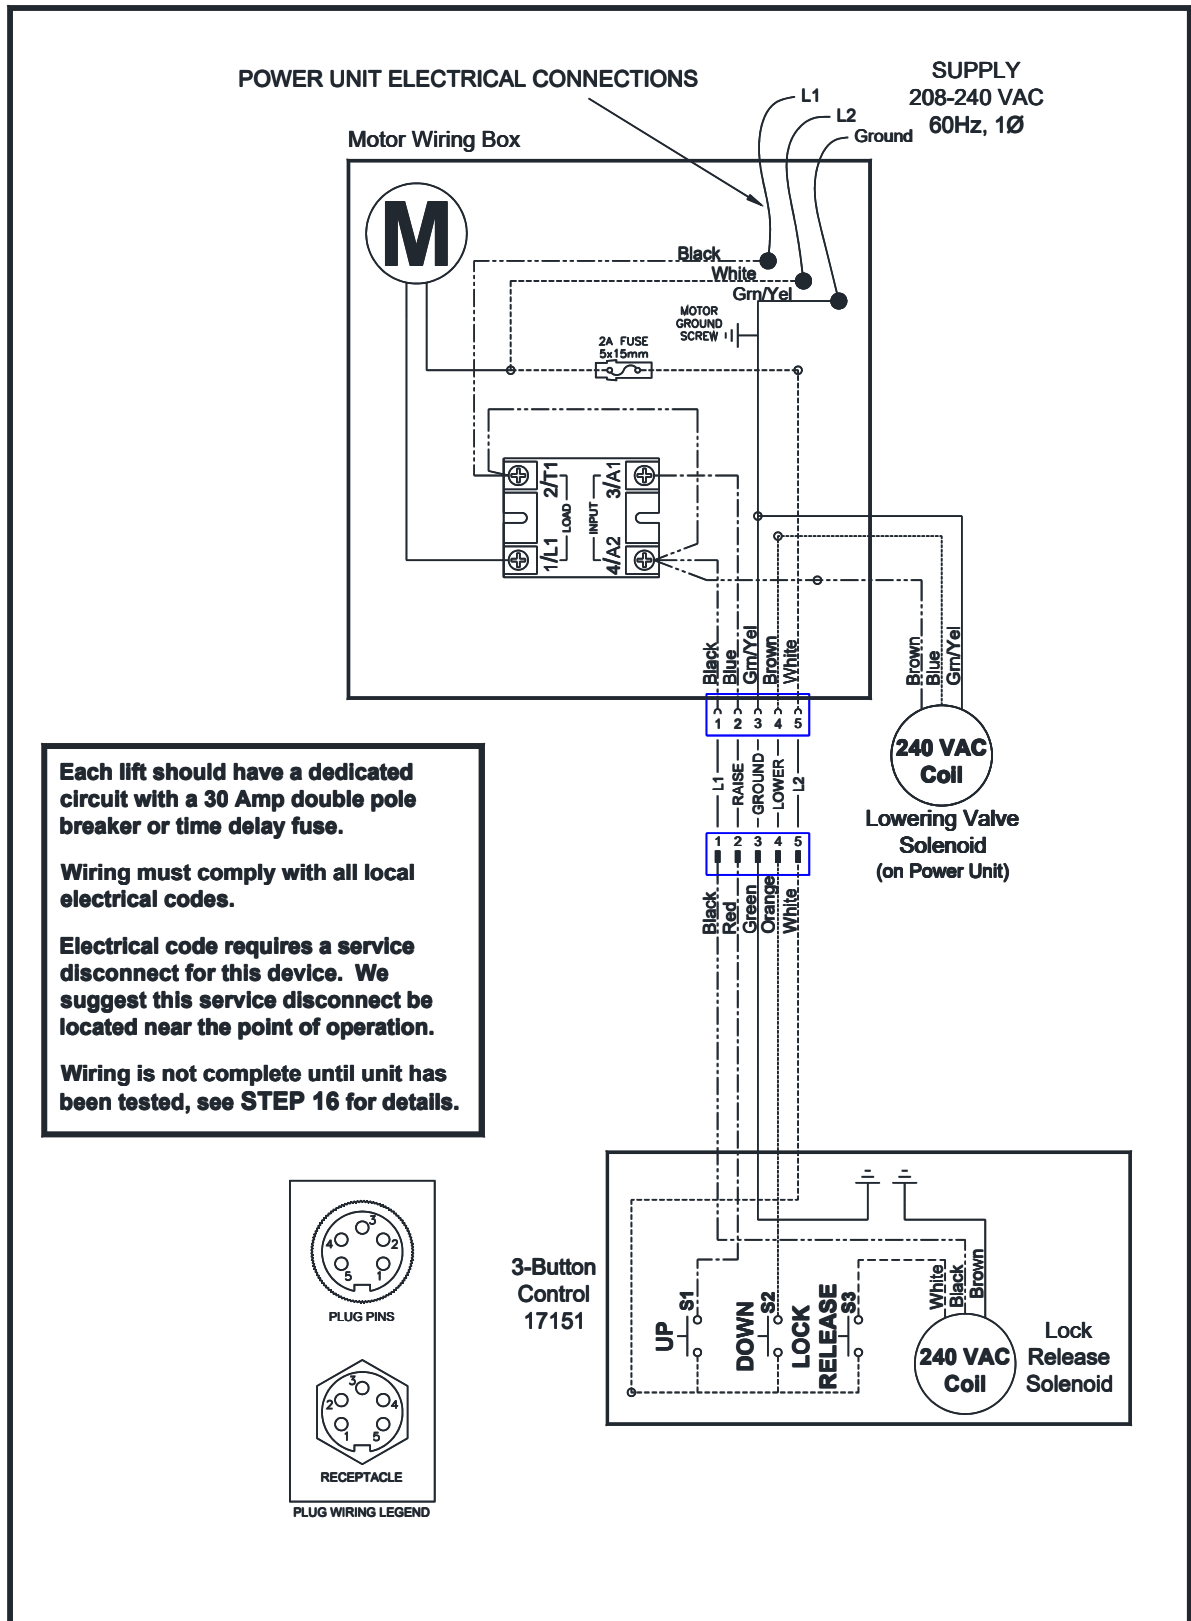

Fig 14 - Electrical Wiring Diagram
22. Connect the power unit to an electrical source as shown in **Fig 14** below.